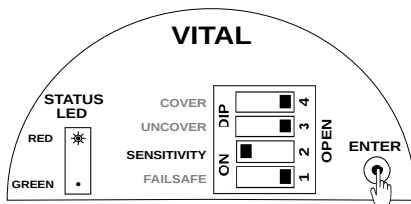

Figure 9: Setting Sensitivity Value
- Press ENTER. The STATUS LED starts blinking. Blink the STATUS LED according to value of sensitivity as shown in Figure 9.